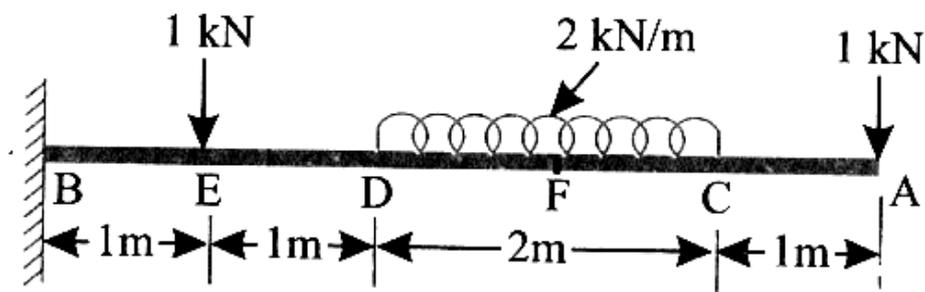

Figure 1
24. a) Draw the shear force and bending moment diagrams for a cantilever beam loaded as shown in **Figure 1**.